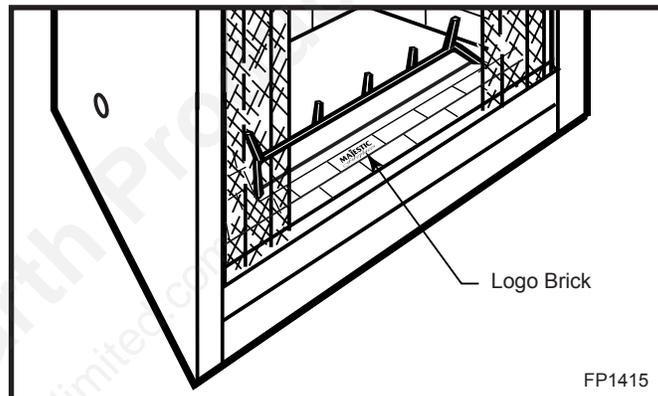

Fig. 6 Lift brick with logo on it to access valve.
2. Lift the brick with the logo on it. (Fig. 6)